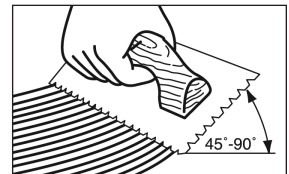

Figure 3
- Open times and curing times of ALL adhesives vary dependent upon subfloor porosity, air movement, humidity and room temperature. Urethane adhesive has a shortened working time in high humidity environments. In areas of low humidity, open time will be longer with urethane adhesives and shorter with some adhesives. Adjust the amount of adhesive spread on the subfloor accordingly. The adhesive should not be applied if subfloor or room temperature is below 60°F (16°C). Hold trowel at a minimum 45° angle (Figure 3) firmly against the subfloor to obtain a 50-60 ft.2 (4-5.5 m2) per gallon spread rate (20-30 ft.2 per gallon for Bruce® Summit Select or Bruce® ProConnect Plus spread with listed trowels) The trowel will leave ridges of adhesive and very little adhesive between the ridges. This method will allow you to still see the chalk lines between the ridges and provide the recommended spread rate.